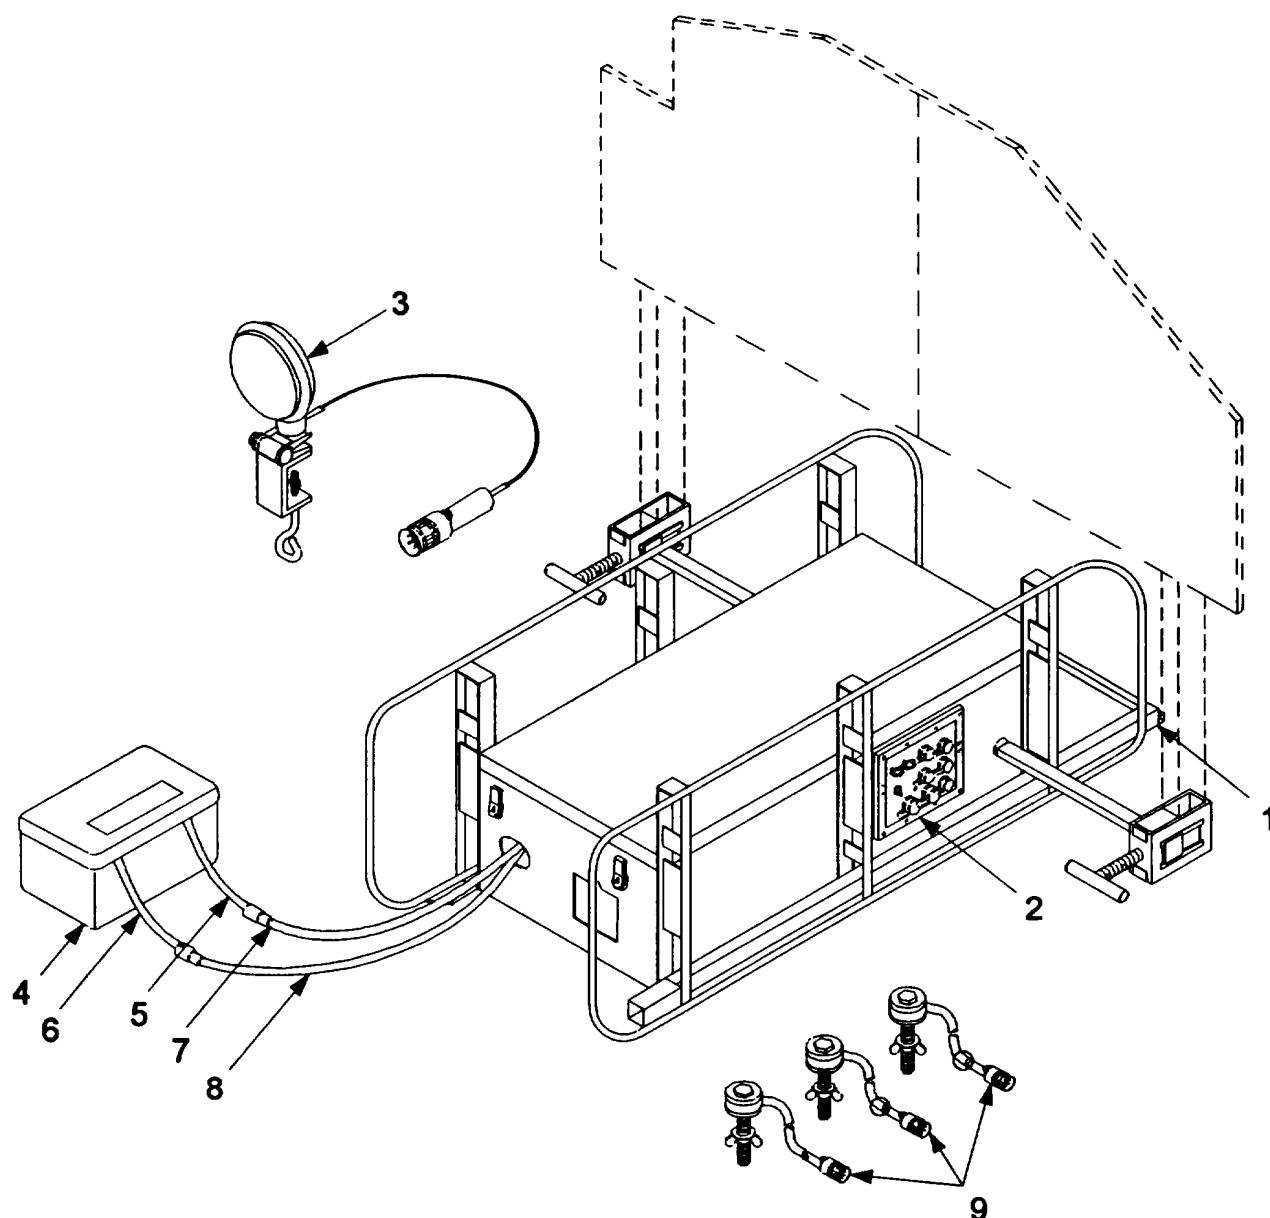

Figure 2-6. Preparation for Use of the Computer-Controlled THM/TG with Battery.
- (12) Position armor target kill simulator in protected area. Clear brush and other flammable material away from ATKS. Connect the simulator to SMOKE SCORER or HOSTILE FIRE connector on control assembly. Connection to the SMOKE SCORER connector activates the ATKS when target is hit and goes down. Connection to the HOSTILE FIRE connector activates the ATKS when commanded to do so by the radio controlled transmitter.
b. **Assembly and Preparation of Computer-Controlled THM/TG with Battery.** To assemble and prepare the computer-controlled THM/TG with battery for operation, refer to figure 2-6 and FO-2 and perform the following steps: